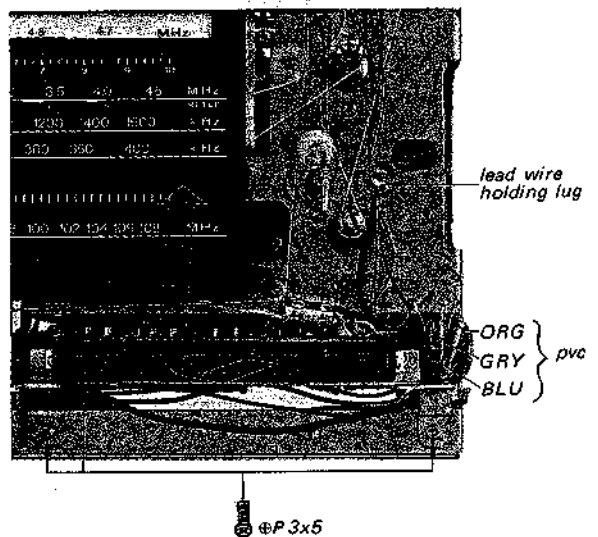

Fig. 2-12
4. Remove the three screws shown in Fig. 2-12.
7. Slide off the CP-IF circuit board in the direction shown by the arrow in Fig. 2-12.